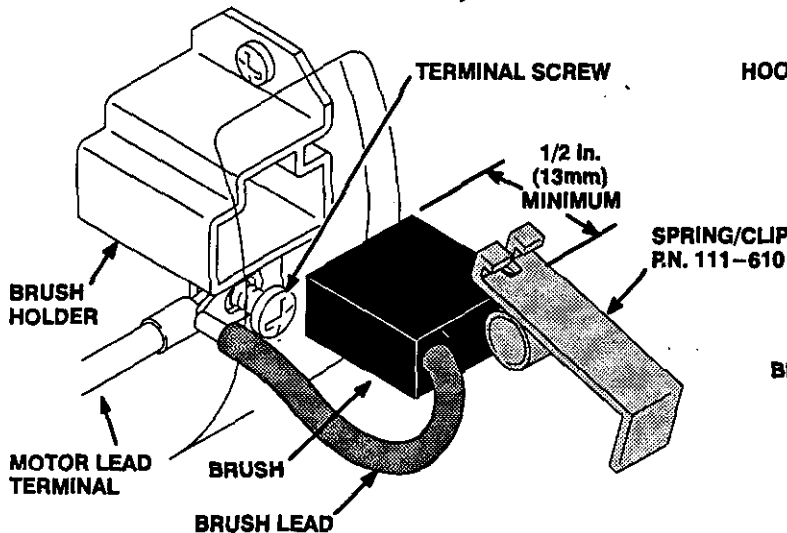

Fig 17
NOTE 1: Replace the brushes when they have worn to less than 1/2 in (13 mm). Refer to Fig 17. Note that the brushes wear differently on each side of the motor, so check them both. Brush Repair Kit 235-727 is available.
2. Push in the spring clip and release its hooks from the brush holder. Pull out the spring clip. See Fig 17.
3. Loosen the brush lead terminal screw. Pull the brush lead away, but leave the motor lead terminal in place. Remove and discard the brush. See Fig 17.
6. Place a new brush in the holder so the lead is closer to the fan-end of the motor. Slide the terminal under the terminal screw washer. Ensure the motor lead is still connected at the screw. See Fig 17.